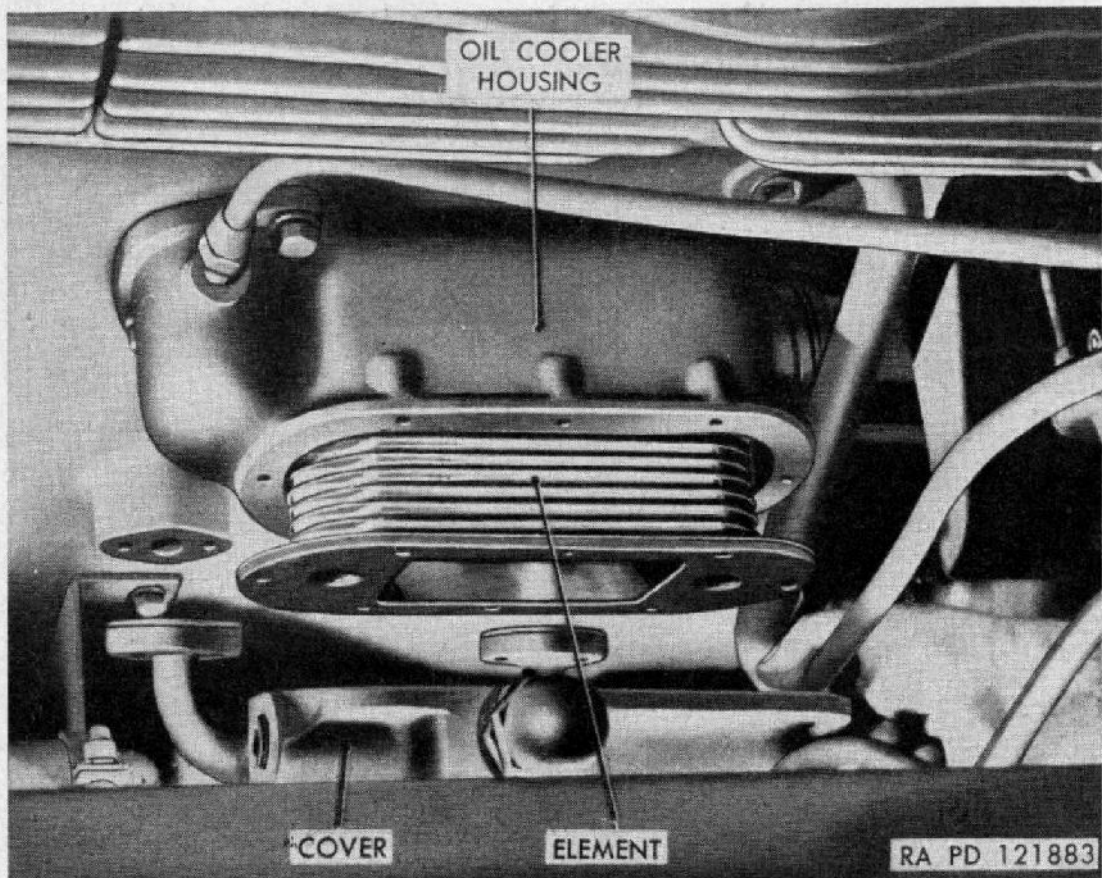

Figure 35. Engine oil cooler removal.
- (a) *Remove cooler element.* Drain cooling system of engine from which cooler is to be removed (par. 131). Drain engine crankcase. Disconnect cooler-to-crankcase oil pipes by removing two cap screws that attach each lever pipe flange to crankcase. Remove eight cap screws that attach cover to cooler housing and remove cover (fig. 35). Remove element and gaskets.